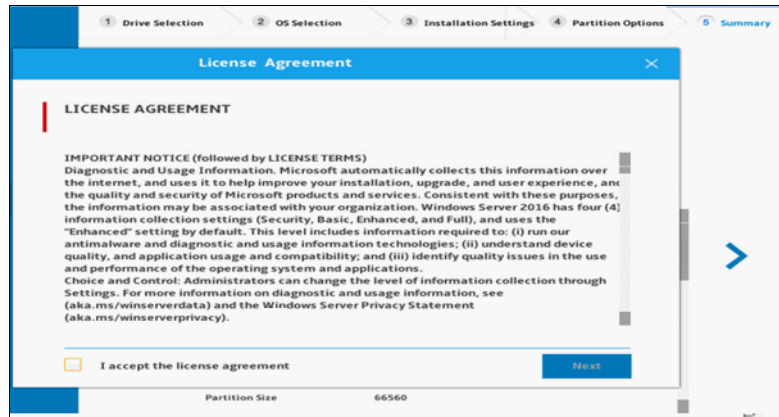

Figure 6-35 Windows license agreement
10. Read and approve the License Agreement (NOTE: System will stay on this screen until the License agreement is accepted) as shown in Figure 6-35 on page 203.